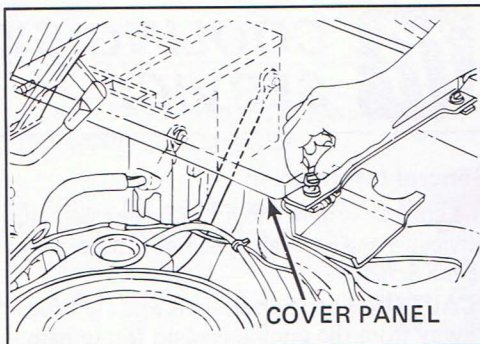

Figure 1 - RH side of rear compartment
2. Remove the two thumb screws holding the battery cover panel to the body, and lift the panel out. See Figure 1.